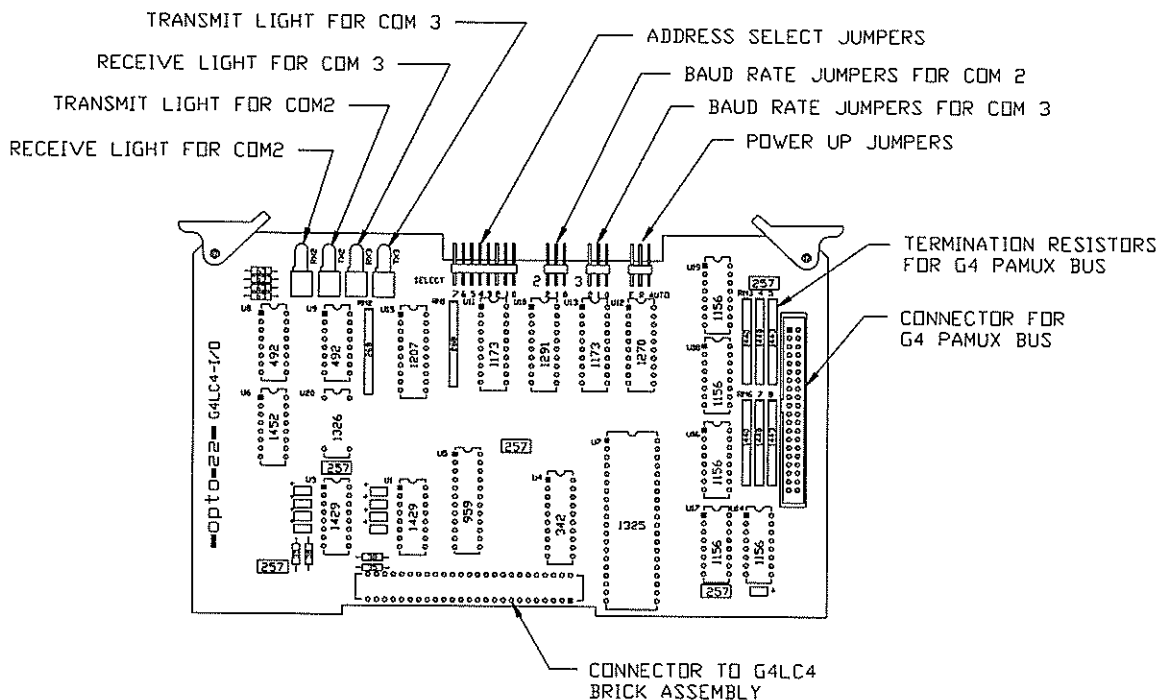

Figure 1 - G4LC4A I/O Card
5. If you want to enable the unit to start running upon power up, then install the 'AUTO' jumper. See Figure 1.
6. If you want to clear (erase) all battery backed RAM upon power up, then install the 'R' jumper. See Figure 1. This is not meant to be a permanently installed jumper. It is used for trouble shooting. Normally you would not install this jumper.
9. Connect the 40-conductor flat ribbon cable (G4 PAMUX Bus) to the 40-pin connector at the right-hand side of the I/O Card. See Figure 1.
To set COM 2 for the desired baud rate, install jumper 2, 1 and 0 for COM 2. See Figure 1. To set COM 3 for the desired baud rate, install jumper 2, 1 and 0 for COM 3. See Figure 1. Refer to the following table for the jumpers to be installed:
Refer to Figure 1 for the location of these jumpers.
For the G4 PAMUX units to operate correctly, both ends of the G4 PAMUX bus *must* be terminated. The host computer and the *last* G4 PAMUX I/O Brick (Digital or Analog) on the bus are the only devices that should have termination resistors installed. If the G4LC4 Local Controller is the host computer for the bricks connected to the G4 PAMUX bus, then it must have termination resistors installed. The G4LC4A G4 PAMUX I/O Card for Local Controller provides the required termination resistors. See Figure 1. The resistors are pre-installed at the factory. The user only needs to be concerned about installing resistors for the *last* G4 PAMUX I/O Brick (Digital or Analog) on the bus.